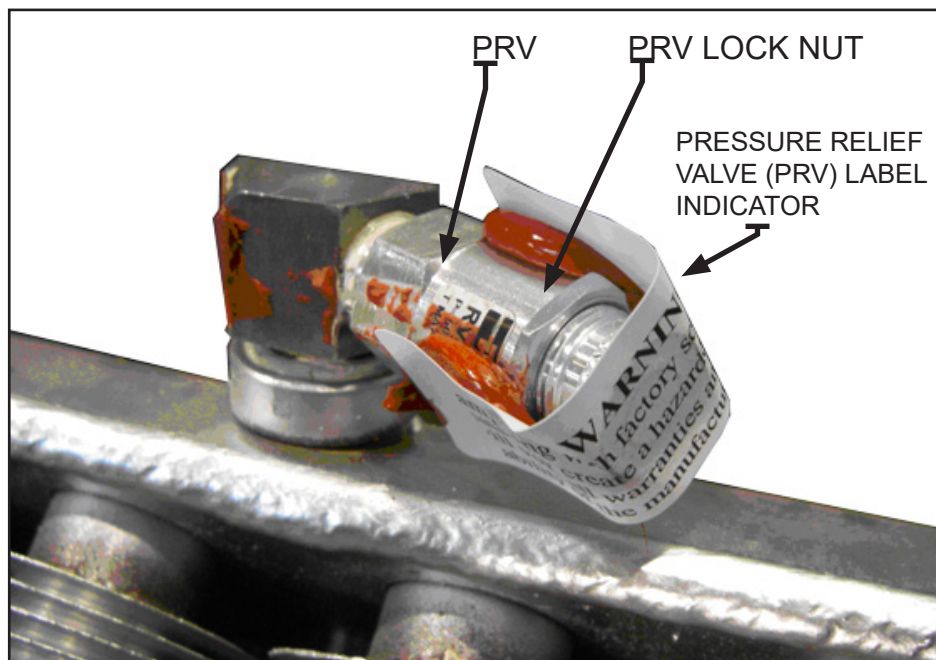

FIGURE 1
| <p>1. CLEAN</p> <ul style="list-style-type: none"><input type="checkbox"/> Finned Tubes<input type="checkbox"/> Fan<input type="checkbox"/> Fan Guard<input type="checkbox"/> Motor<input type="checkbox"/> Louvers | <p>2. CHECK</p> <ul style="list-style-type: none"><input type="checkbox"/> Motor for smooth, quiet operation<input type="checkbox"/> Louvers for proper angle and tightness<input type="checkbox"/> All explosion-proof covers for tightness<input type="checkbox"/> Pressure relief device for signs of leakage. See Figure 1 and refer to the ANNUAL Section (see below) item 2 for further instructions. |
10. Do not tamper or remove warning label indicator on the PRV (figure 1).
4. The air discharge is directed across areas of heat loss, such as doors and windows (see Figure 1).
5. The air discharge is directed along and at a slight angle toward exterior walls (see Figure 1).
7. Air discharge streams support each other and create a circular air flow. It is not required that the heater's air throw reaches the next heater (see Figure 1).